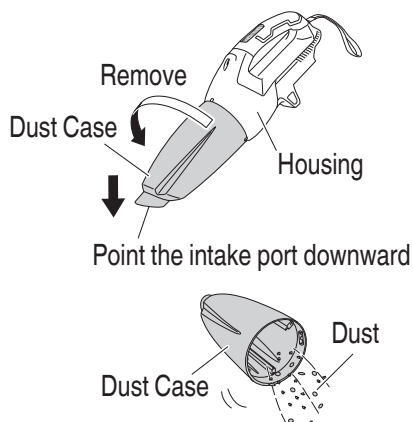

Fig. 19
1. Turn the dust case and pull it from the housing. (Fig. 19)